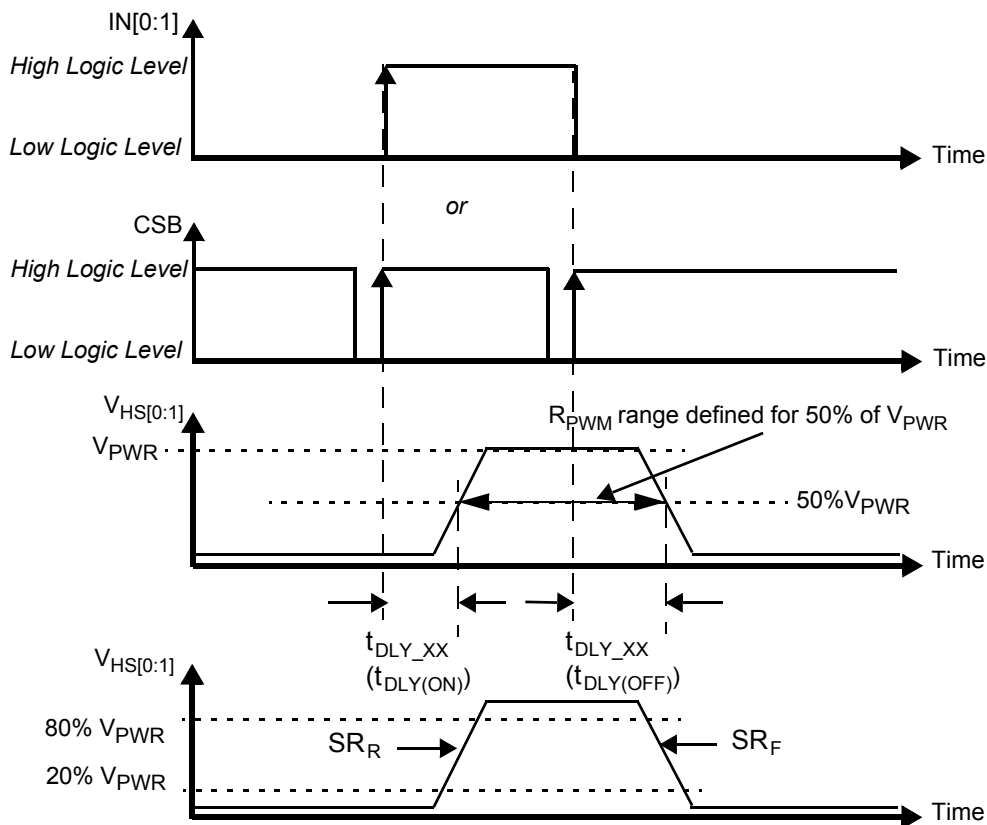
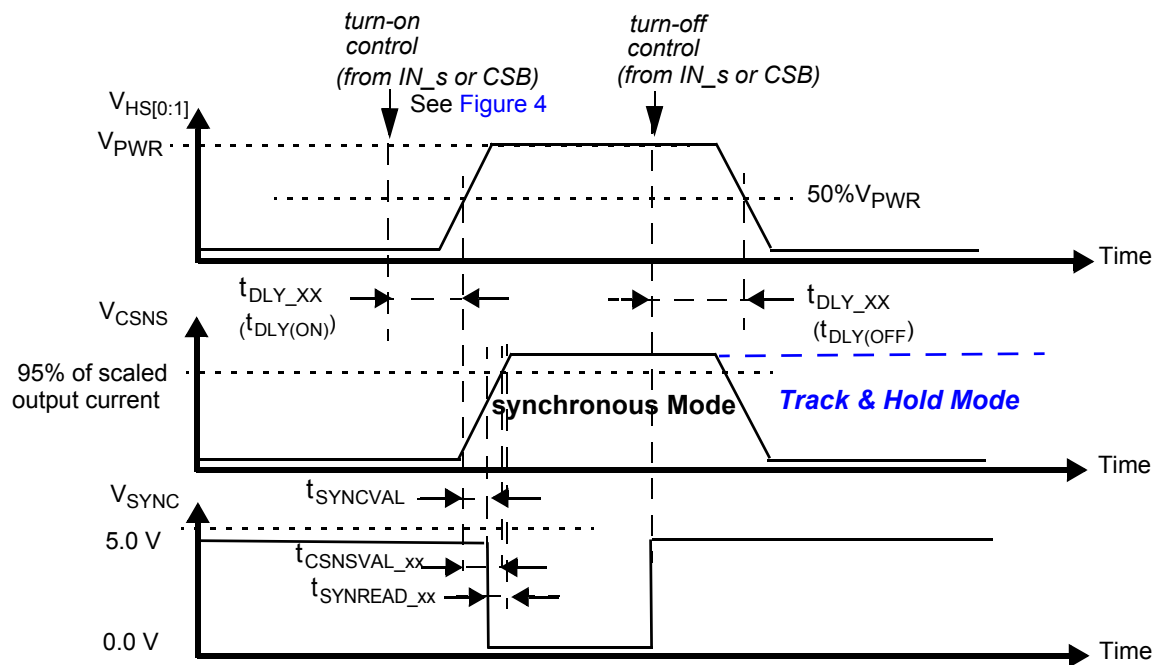

Figure 4. Output Voltage Slew Rate and Delay
Figure 9. Synchronous & Track-and-Hold Current Sensing Modes: Associated Delay & Settling Times
28. Rising and Falling edge slew rates specified for a 20% to 80% voltage variation on a $10.0\ \Omega$ resistive load (see Figure 4).
30. Time required to switch off the channel after detection of overtemperature (OT), overcurrent (OC), SC or UV error (time measured between start of the negative edge on the FSB pin and the falling edge on the output voltage until $V(\text{HS}[0:1]) = 50\%$ of V_{PWR}).
31. Settling time ($= t_{CSNSVAL_XX}$), SYNC output signal delay ($= t_{SYNCVAL_XX}$) and Read-out delay ($= t_{SYNREAD_XX}$) are defined for a stepped load current using a $10\ \Omega$ resistive load for $\text{CSNS_RATIO_s} = 0$. (see Figure 9 and Output Current Monitoring \(CSNS\)).
To synchronize current sensing with an external process, the SYNC signal can be connected to a digital input of an external MCU. SYNC is asserted logic low when the current sense signal is accurate and ready to be read. The current sense signal on the CSNS pin has the specified accuracy $t_{SYNCREAD_XX}$ seconds after the falling edge on the SYNC pin (Figure 9) and remains valid until a rising edge is generated. The rising edge that is generated by the SYNC pin at the turn-OFF instant (internal or external) may also be used to implement synchronization with the external MCU. Parameter $t_{SYNCVAL_XX}$ is defined as the time between the instant at the middle of the output-voltage rising edge ($HS[0:1] = 50\%$ of V_{PWR}), and the instant at which the voltage on the SYNC-pin drops below 0.4 V (V_{SOL}). The SYNC pins of different devices can be connected together to save micro-controller input channels. However, in this configuration, the CSNS function of only one device should be active at a time. Otherwise, the MCU does not determine the origin of the SYNC signal. The SYNC pin is open drain and requires an external pull-up resistor to V_{DD} .